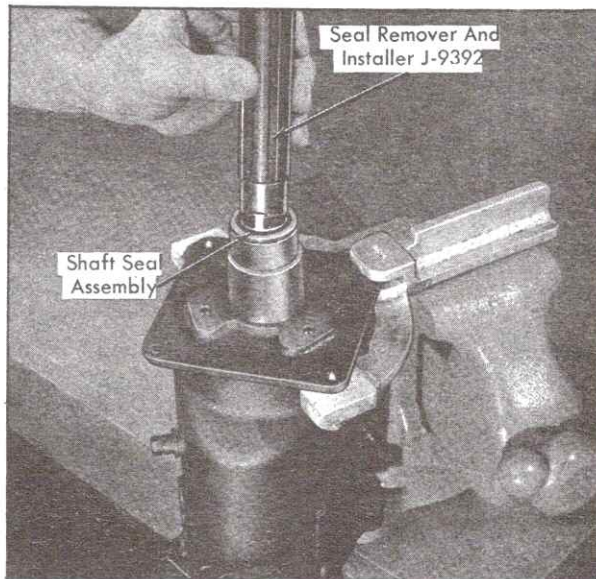

Fig. 1-43 Removing Shaft Seal Assembly
6. Remove shaft seal assembly using Seal Remover and Installer, J-9392, Fig. 1-43. Press